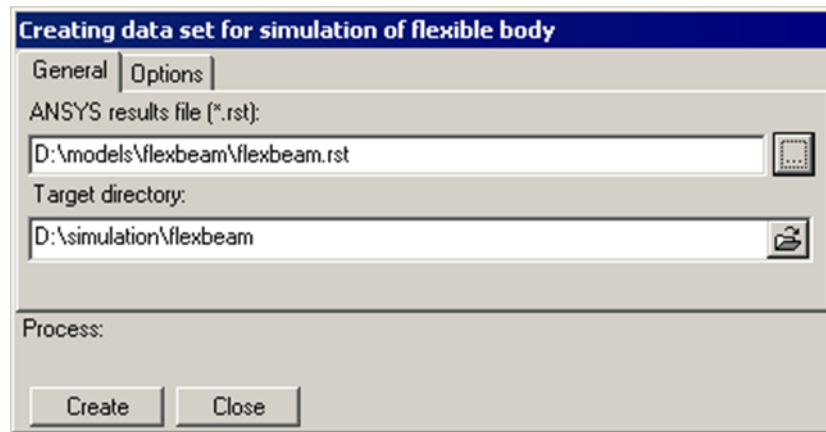

Figure 1.2. Main window of the ANSYS\_UM program.
4. If you changed path to the **ansys\_um.exe** program in **um.mac** properly then **um.mac** runs **ansys\_um.exe** automatically. Otherwise run the `{UM}\bin\ansys_um.exe` manually. The main window of **ansys\_um** appears, Figure 1.2.
5. Point to the **General** tab. The **ANSYS results file (\*.rst)** set to **.\flexbeam\flexbeam.rst**, **Target directory** set to **.\flexbeam**, see Figure 1.2.